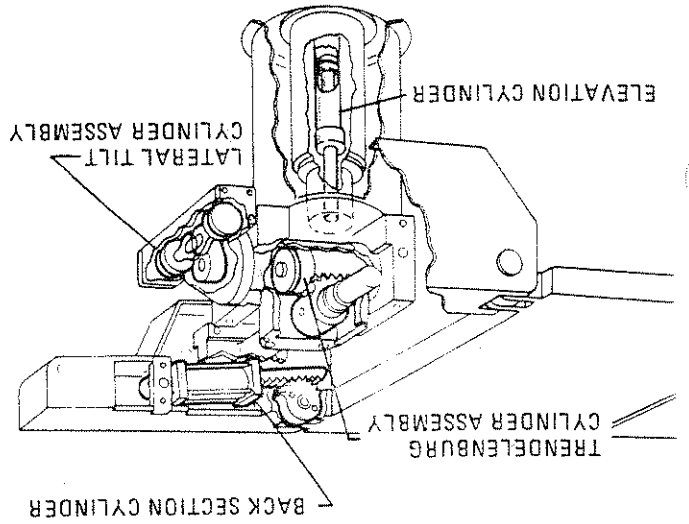

Figure 1-15. Cylinder Placement
There are four (4) types of hydraulic cylinders used in the table that activate the control functions. With the exception of the elevation cylinder and side move base brake cylinders, all operate basically the same way. The control functions are listed below: (See figure 1-15).